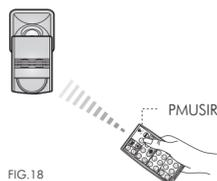

FIG. 18
6.1 It is recommended to purchase our high quality IR remote controller PMUSIR for easy, convenient and safe programming on PMUSW (See FIG. 18).